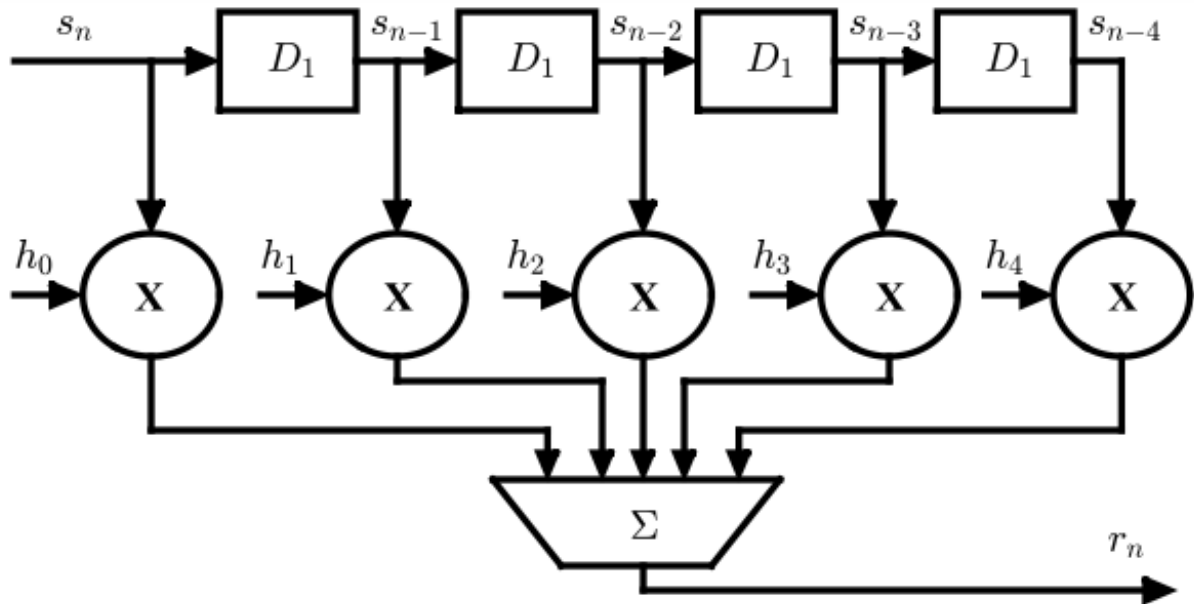

Figure 1: Direct-form realisation of an N -tap FIR filter.
Implement the filter in **direct form**, exactly as written in Equation (1) and drawn in Figure 1: